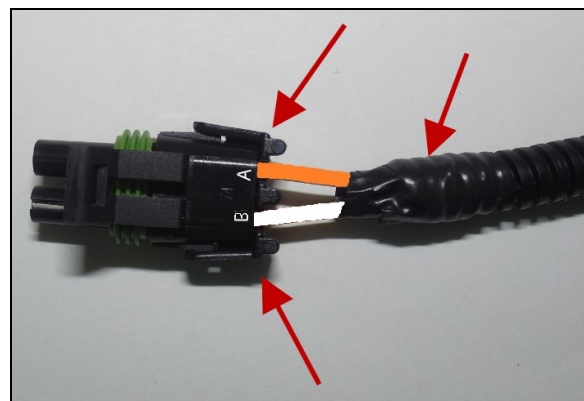

FIGURE 47
82. Wrap the convoluted tubing and the wires together with electrical black tape as shown in Figure 47.